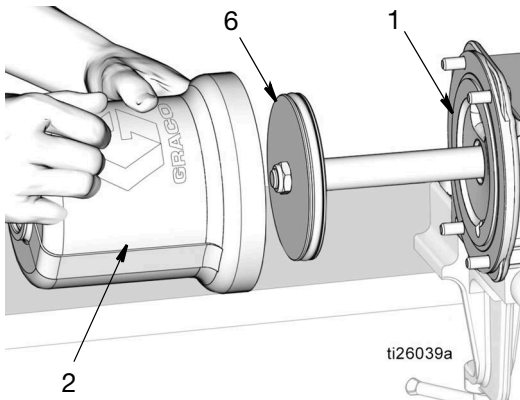

FIG. 52
- a. Use a clean cloth to wipe inside the air cylinder (2) and remove any dirt or contaminants.
- b. Apply a thin layer of grease to the inside surfaces of the air cylinder (2). Slide the air cylinder (2) over the piston (6) and push it all the way down until it is seated tightly to the pump base (1). See FIG. 52.